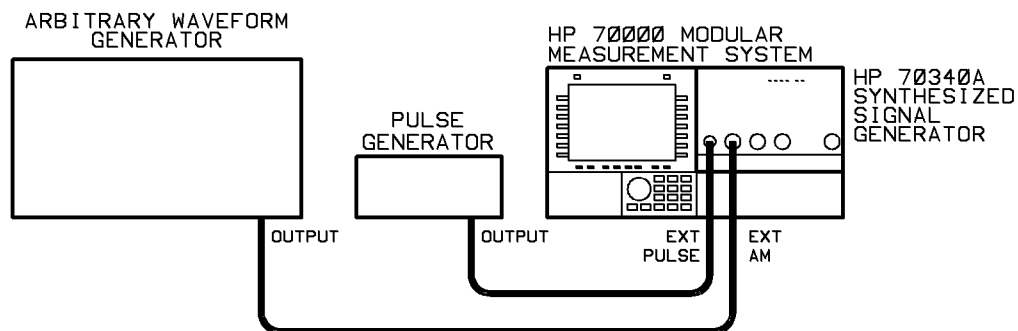

Figure 3-14. Antenna Scan Equipment Setup
1. Connect the equipment as shown in Figure 3-14:
To program the signal generator to generate the antenna scan pattern explained above, connect the equipment as shown in Figure 3-14. Set the scan generator to produce the scan waveform shown in Figure 3-15, and then run the following program.